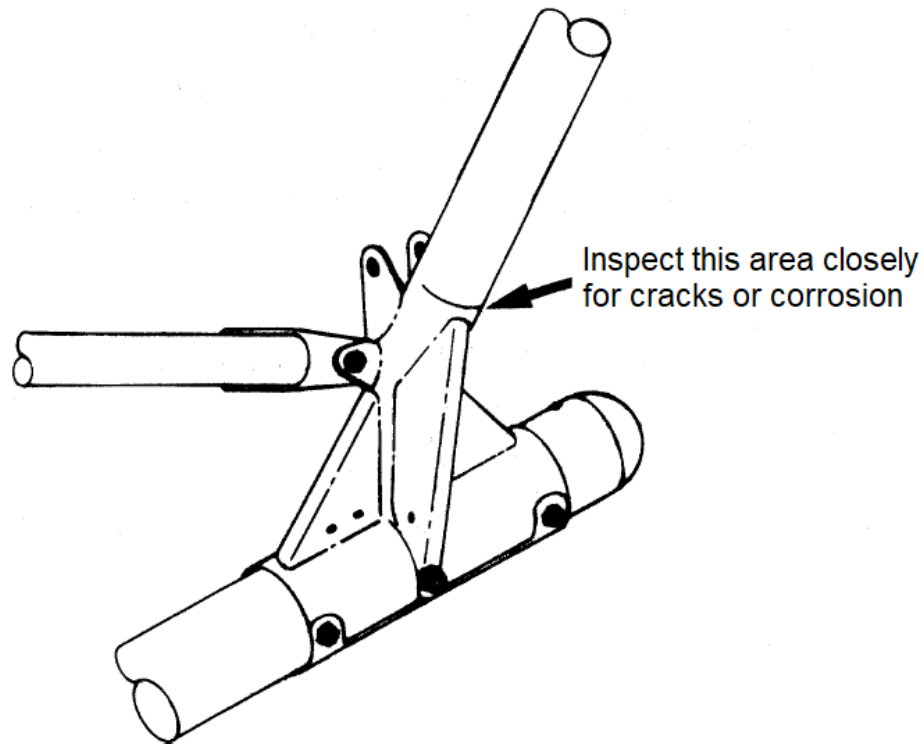

Figure 8-7.1. Landing Gear Leg Inspection
- a Visually inspect each landing gear leg in the area noted in Figure 8-7.1 for cracks. Utilize a tapping procedure in any area that may exhibit surface blisters or roughness.